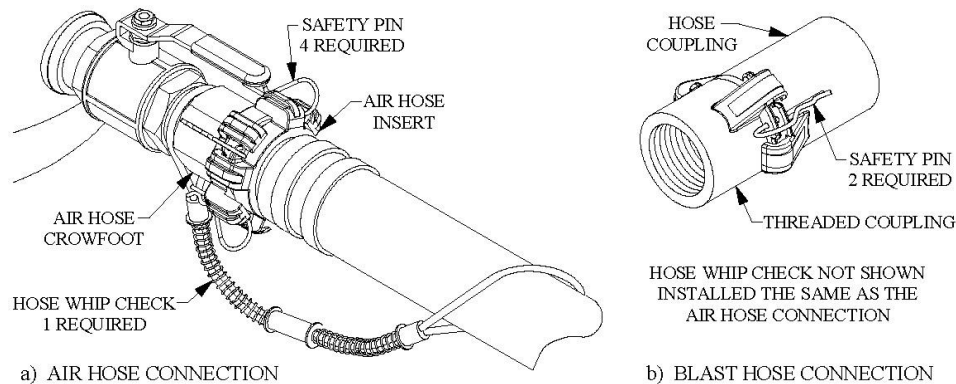

Figure 8.2 – Hose Connection Disconnect Protection
- 8.7. **Blast and Air Hose Couplings:** All air hose, blast hose, and threaded couplings have two pin holes that align when connected. To protect against accidental hose disconnections safety pins (#39) must be installed through these holes. Each hose connection must also include a hose whip check that will hold the hose if there is an accidental disconnection. Connect one loop to each side of the connection and stretch out as shown in Figure 8.2 below. Check hose connections daily and replace missing or damaged pins and whip checks.